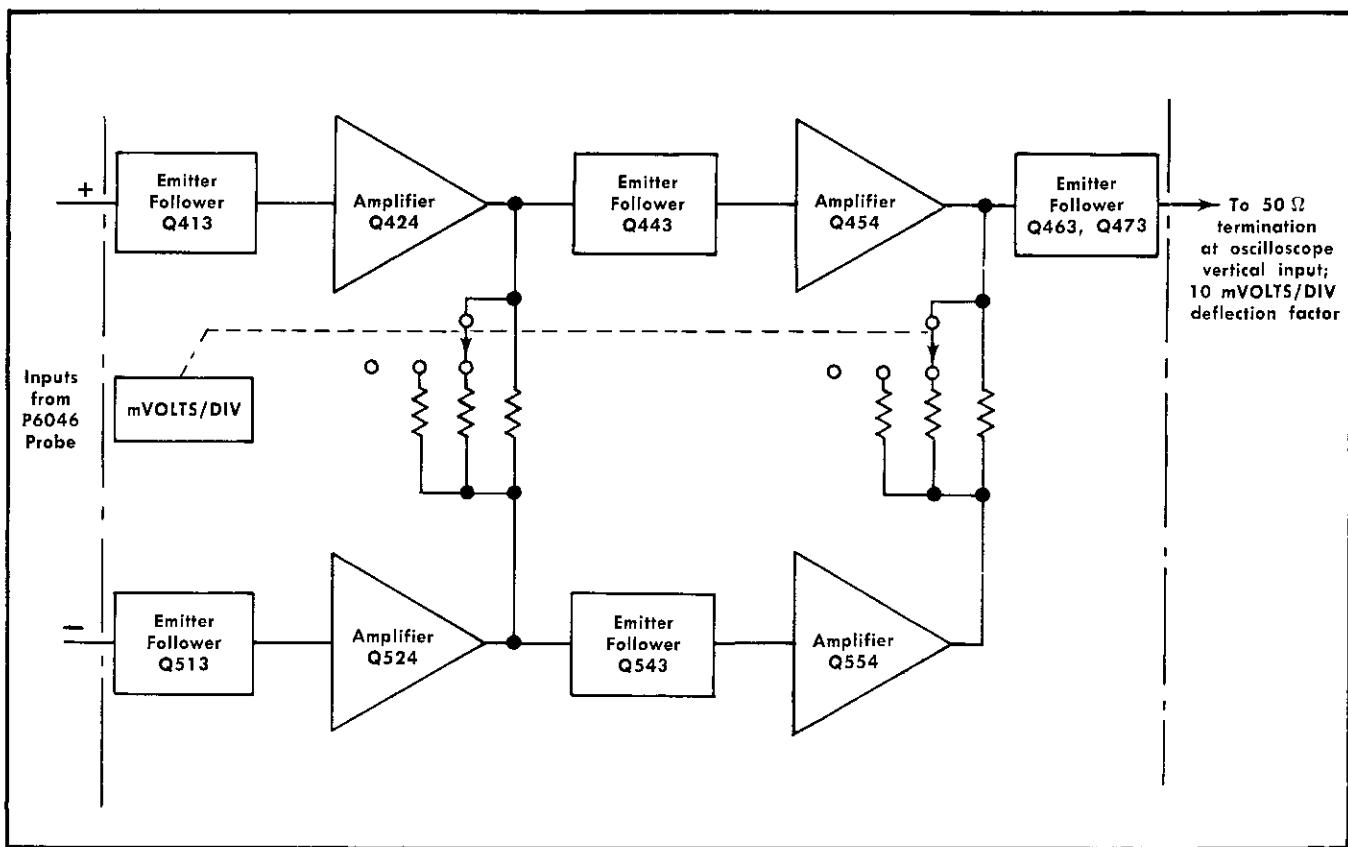

Fig. 3-3. Amplifier For P6046 block diagram.
**Block Diagram Description.** Refer to Fig. 3-3. The push-pull signals from the Probe are applied to emitter followers which provide isolation between the Probe and the Q424-Q524 amplifiers. After being amplified by Q424 and Q524, the signals pass through another pair of emitter-followers and are applied to a second amplifier stage, consisting of Q454 and Q554. The output from the + side of the second amplifier stage is then applied to the final emitter-follower stage, whose output is designed to supply a drive signal into a  $50\ \Omega$  load.